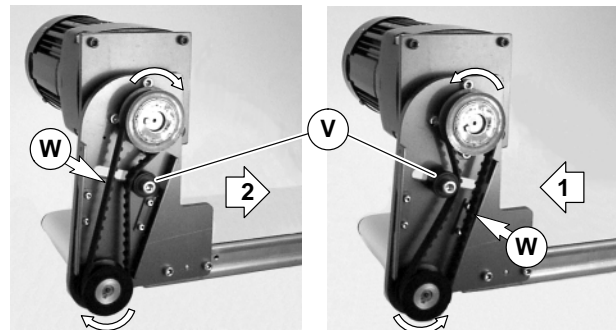

Figure 7
7. Depending on direction of conveyor belt travel (1 or 2 of Figure 7), position belt tensioner (V) as shown. Tension belt to obtain 0.125" (3 mm) deflection for 1.0 lb (456 grams) of force at belt mid-point (W). Tighten tensioner screw to 103 in-lb (12 Nm).
- Depending on direction of conveyor belt travel (1 or 2 of Figure 7), position belt tensioner (V) as shown. Tension belt to obtain 0.125" (3 mm) deflection for 1.0 lb (456 grams) of force at belt mid-point (W). Tighten tensioner screw to 103 in-lb (12 Nm).
- Depending on conveyor belt travel (direction 1 or 2), locate timing belt tensioner (V of Figure 7) as shown. Tension timing belt to obtain 0.125" (3 mm) deflection for 1.0 lb (456 grams) of force at timing belt mid-point (W). Tighten tensioner screw to 103 in-lb (12 Nm).